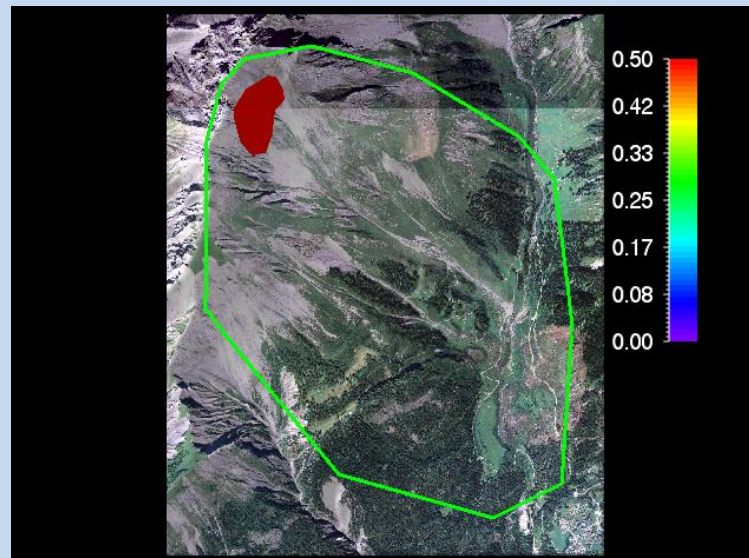

Figure 3-45: Input file with big calculation domain
- Draw a rough calculation domain as explained above, see Figure 3-45 below.